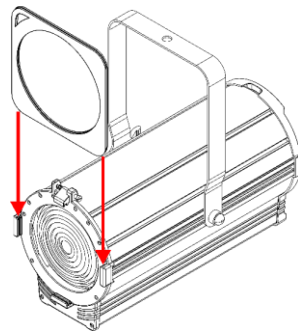

Fig. 12
- 03) Insert the color frame into the **color frame holders (04)** (see Fig. 12).